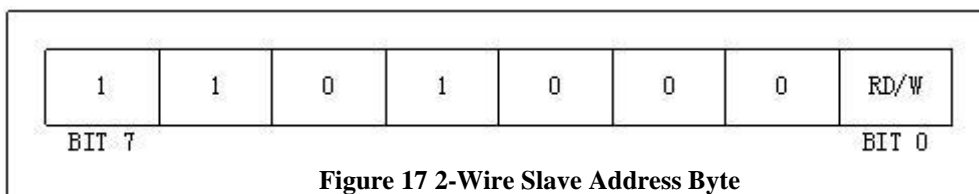

Figure 17 2-Wire Slave Address Byte
Before any data is transmitted on the bus, the device that should respond is addressed first. The first byte sent after the start (S) procedure is the address byte. The PT7C4909/4910 act as a slave transmitter/receiver. Therefore, SCL is only an input clock signal and SDA is a bidirectional data line. The slave address for the PT7C4909/PT7C4910 is shown in Figure 17.